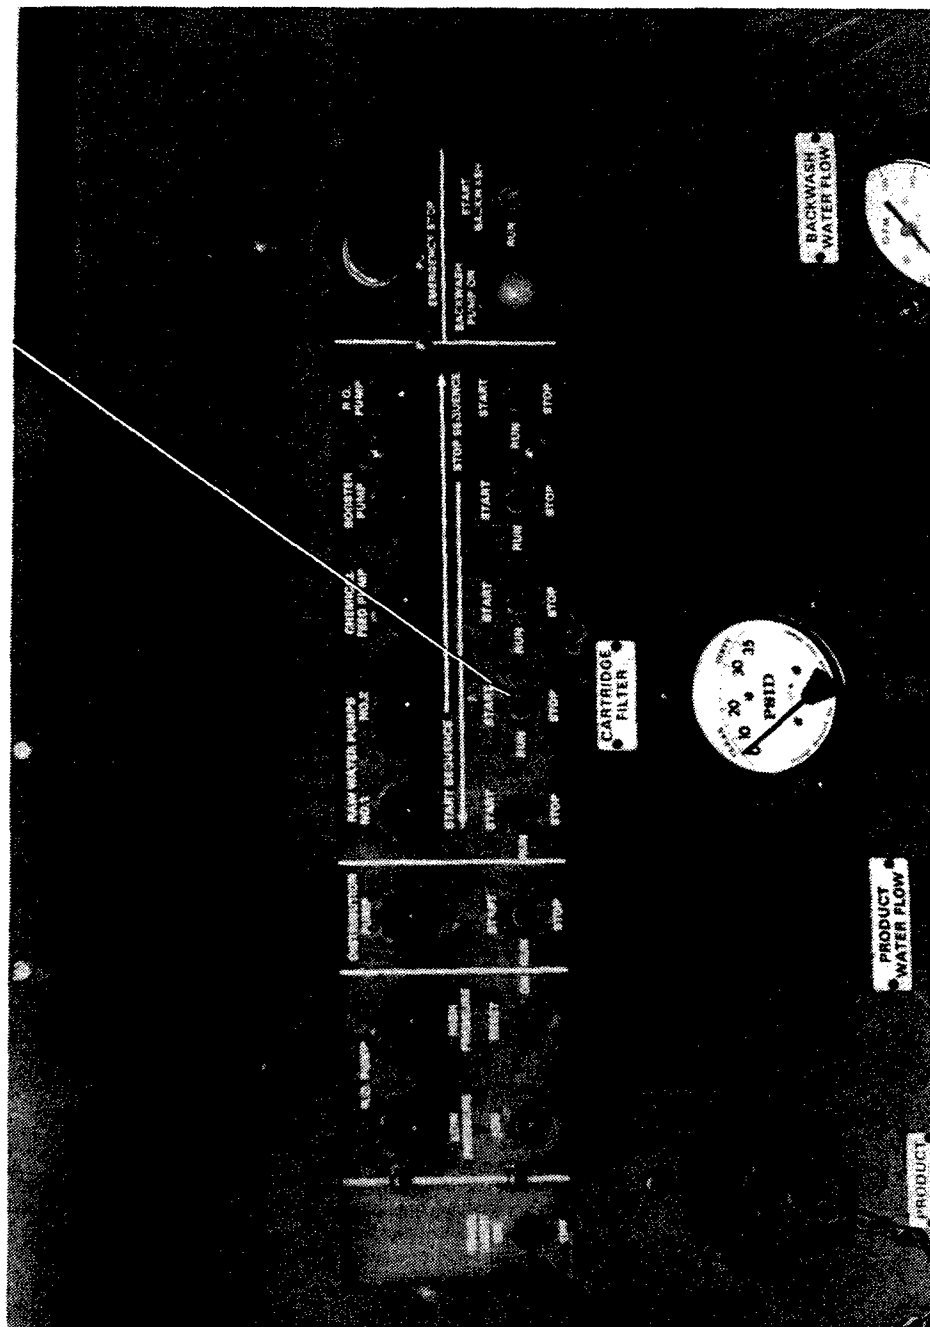

Figure 2-12. On/Off Switch, Raw Water Pump No. 2.
- g. Turn raw water pump No. 2 switch (figure 2-12) to the "START" position.